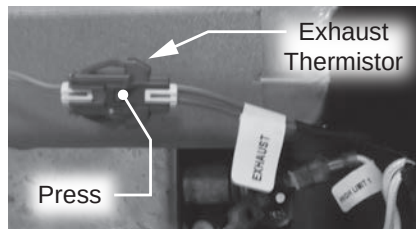

Figure 29 - Disconnecting exhaust thermistor
- 5 Locate the exhaust thermistor wiring harness and disconnect it. See Figure 29.